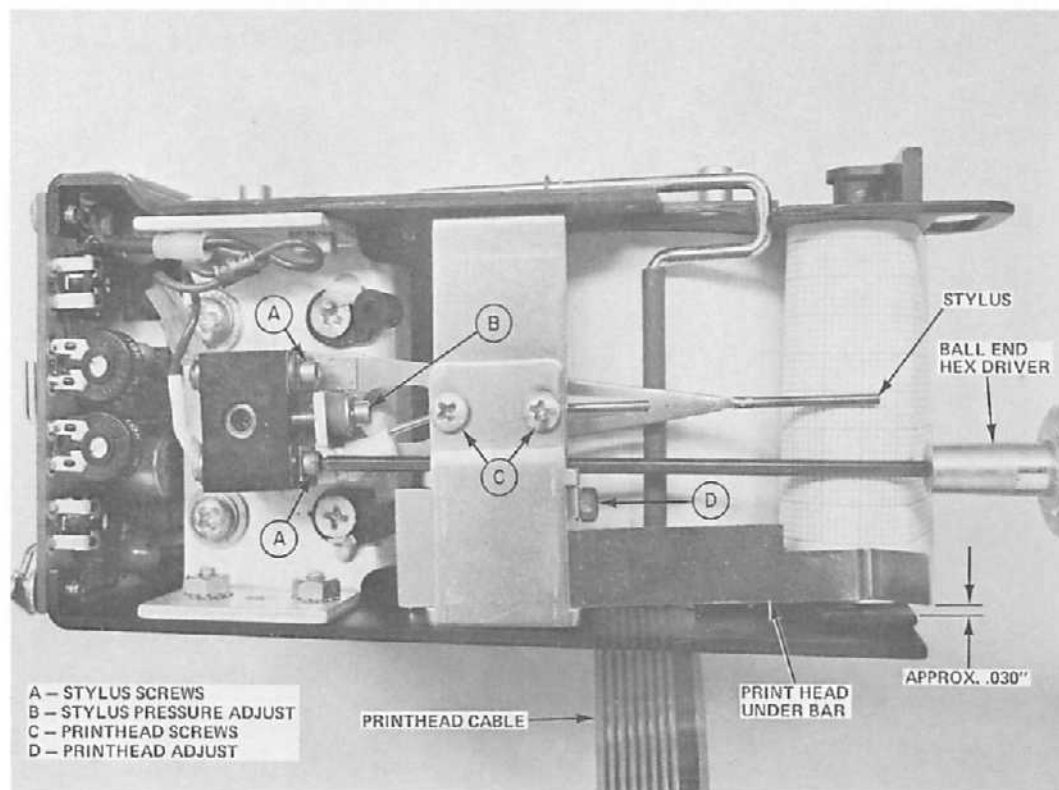

Figure 4-21.
the Operator's Guide, so it will not be repeated here. However, stylus replacement is very easy with the recorder out of its housing (see Figure 4-21).
1. Remove the recorder as described in section 4.2.17. Place the recorder mechanism on a flat surface, stylus side up (see Figure 4-21).
2. The printhead dots are in a row running across the printhead. The row is located approximately .060 from the front edge of the ceramic block. The row of dots must be centered above the roller for proper operation. The adjustment screw moves the printhead to place the dots over the roller (see Figure 4-21).